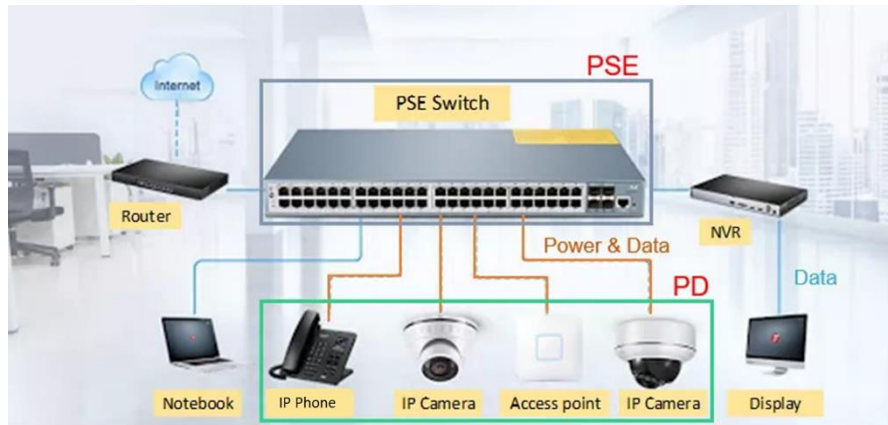

Figure 1: Typical PoE Applications
After over a decade since the PoE IEEE 802.3af protocol was proposed in 2003, the maximum transmission power supported by PoE currently reaches 90W (IEEE 802.3bt). Figure 1 shows typical PoE applications, such as internet protocol (IP) phones, IP cameras, access points, and 5G indoor base stations.